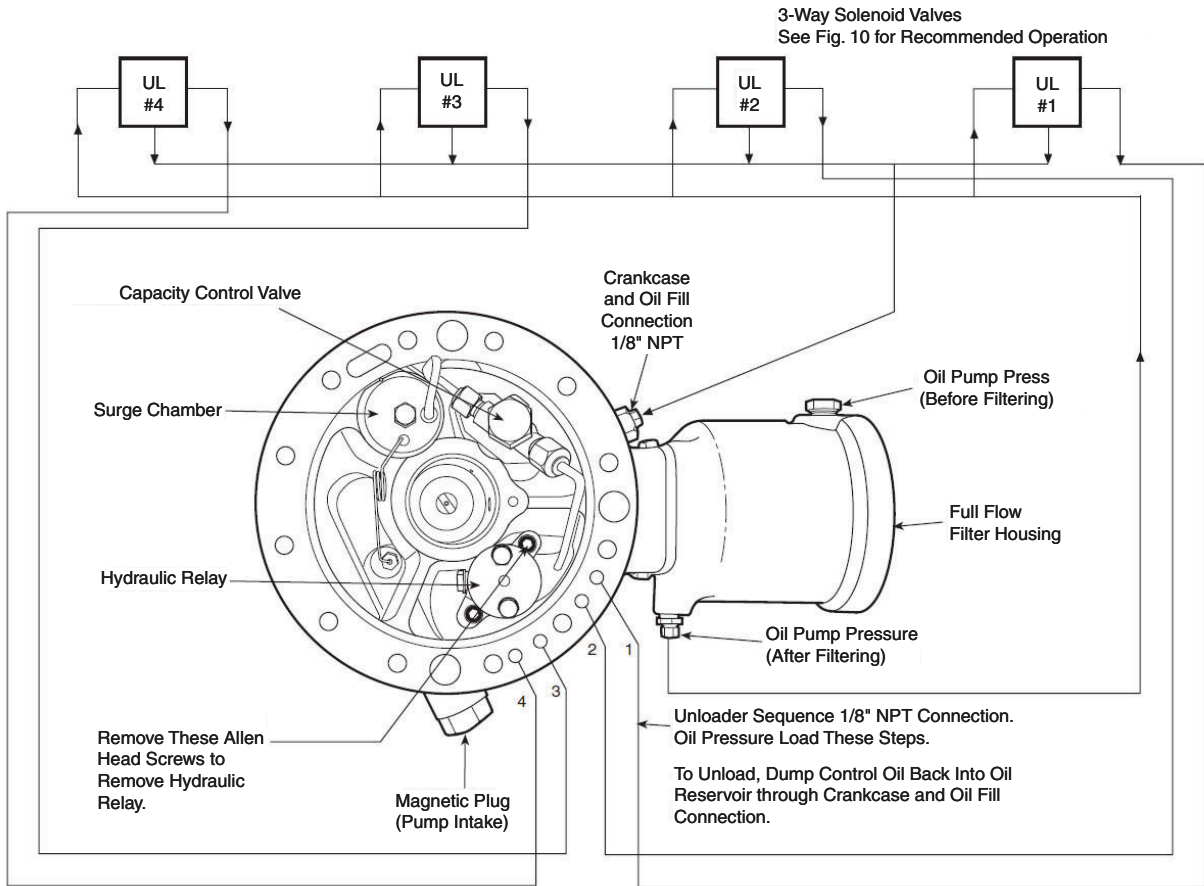

Fig. 9 — 5H120/126 Bearing Head Assembly
4. Mount solenoid valves and run oil lines. See Fig. 9 and 10.